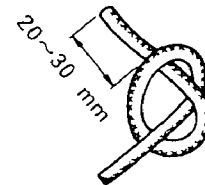

Fig. 72
- (1) Put starter rope through starter knob and tie it as shown in Fig. 72. (Tie the rope tightly for the safety sake.)